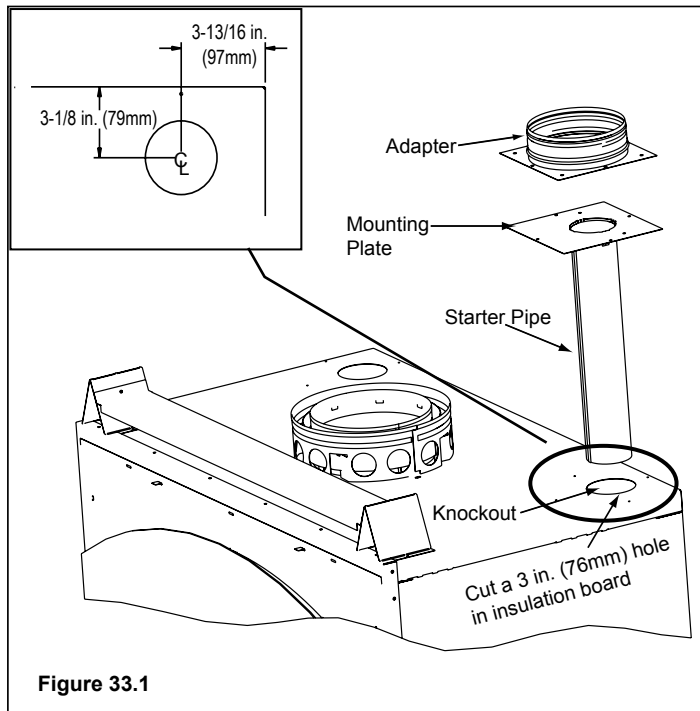

Figure 33.1
1. Remove the knockout or cover plate from the top of the fireplace and discard it. See Figure 33.1.
2. Cut a 3 in. (76mm) hole in the insulation board as per the dimensions shown in Figure 33.1.